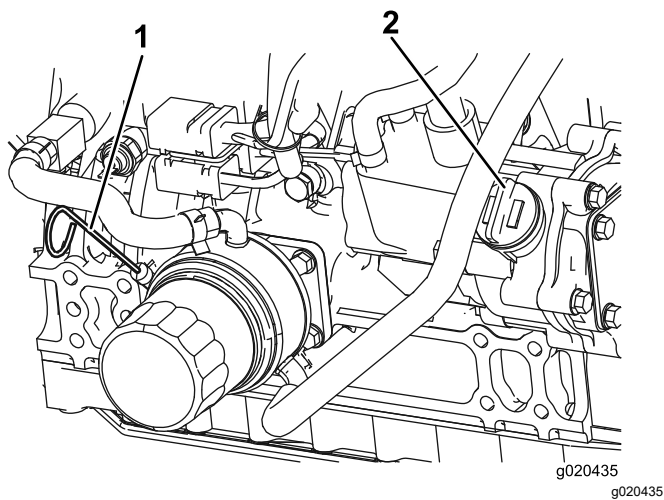

Figure 72
The oil level should be in the safe range (Figure 72).
4. If the oil is below the safe range, remove the fill cap (Figure 72) and add oil until the level reaches the Full mark.